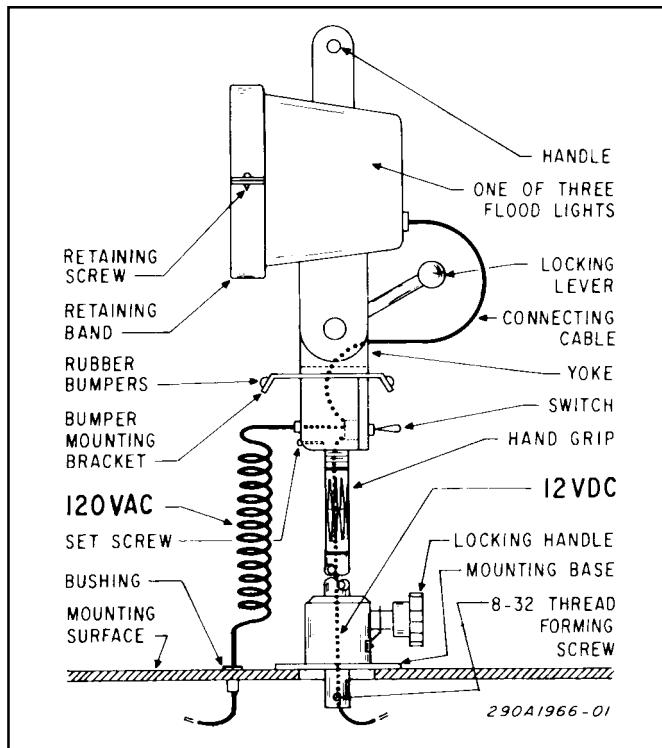

Figure 2. Retaining Band Removal.
1. Remove the retaining screw from the retaining band (see figure 2). Lift the retaining band from the light.